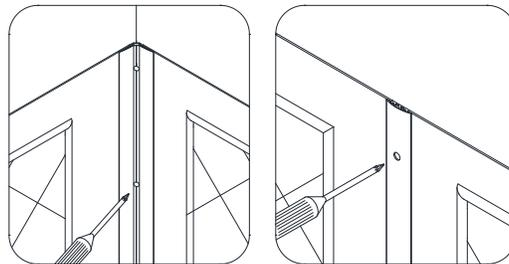

**Fig 21a**
**21.** Repeat Step#18 to install the second **Side Panel (#01)**, tucking the **Side Panel (#01)** behind the corner cover and fully tightening the screws. **(Fig 21a and Fig 21b)**